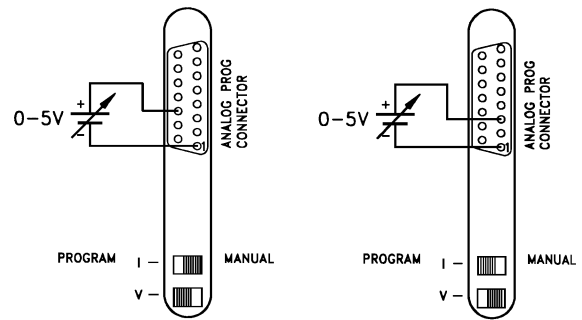

fig. 3 - 1
- The monitoring outputs can drive a meter directly. See fig. 3 - 2.